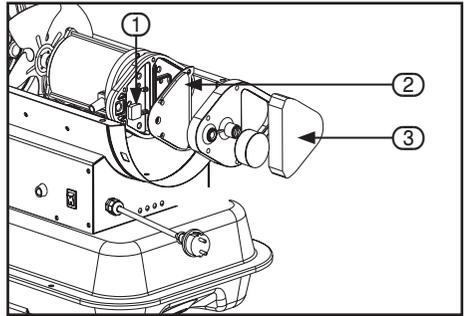

FIG.5
11.2 AIR FILTERS – FIG.5
- The Air Intake Filter (3) should be replaced or washed with soap and water and dried thoroughly every 500 hours of operation, or less, depending on conditions.
- The Output (2) and Lint (1) Filters should be replaced every 500 hours of operation or less, depending on conditions.